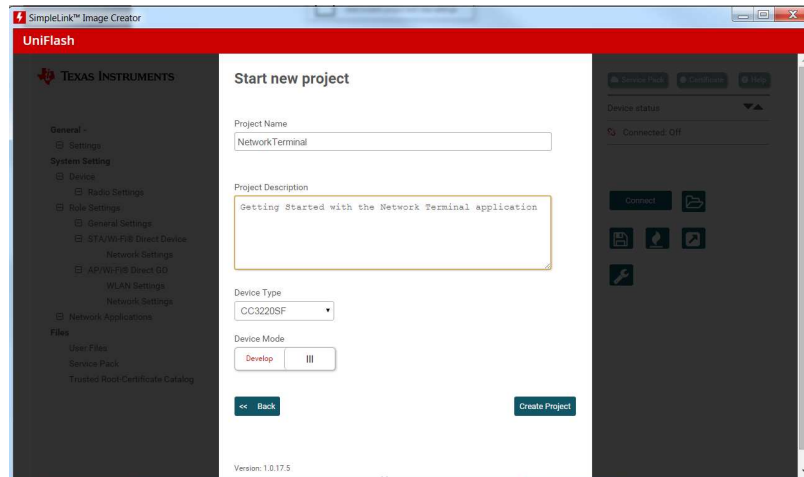

Figure 2-8. Create Project
5. Fill all the necessary fields properly. Make sure to select the correct device type (CC3220 for CC3220 and CC3220S device, CC3220SF for CC3220SF device) and click on Create Project, as shown in Figure 2-8.